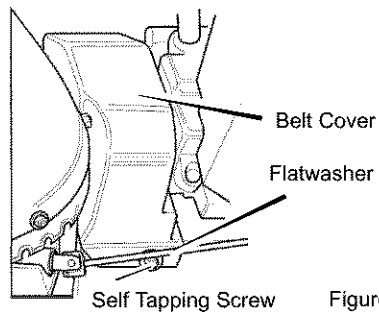

Figure 28
2. Remove the **belt cover**. See Figure 28.
3. Remove the **screw** from the **belt cover**. Remove the **belt cover**. See Figure 28.
14. Install the **belt cover**. Tighten the **screw**. See Figure 28.
- Install the belt cover. Tighten screw. See Figure 28.
- Remove the **screw**. Remove the **belt cover**. See Figure 28.
- Install the **belt cover**. Tighten the **screw**. See Figure 28.